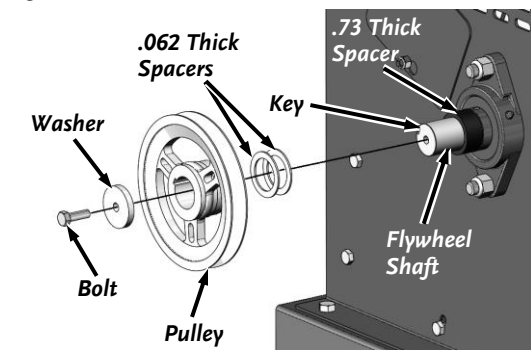

Figure 46a: Pro-475
- a) Remove the Pulley Bolt and Washer (**Figure 46a**).